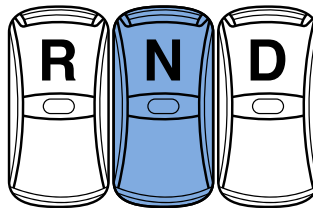

Figure 5 - Drive selector
3. Put the vehicle in neutral by pressing the top part of the "N" pushbutton of the drive selector **(Figure 5)**.